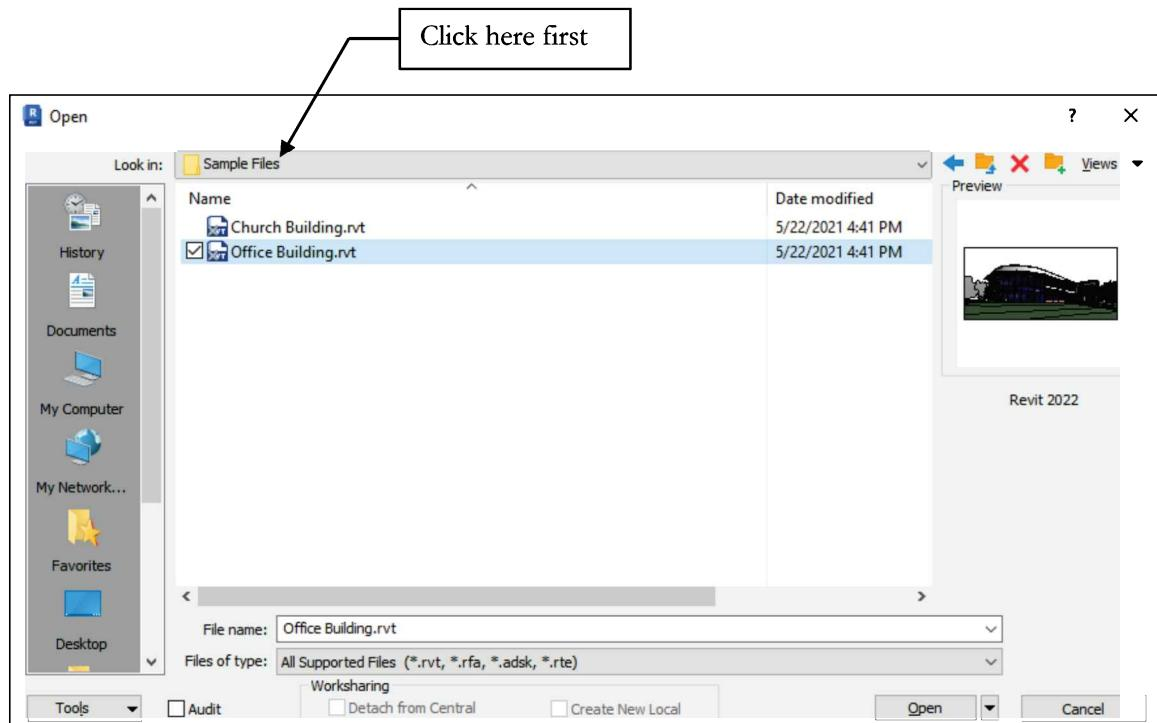

FIGURE 1-3.2 Open dialog; downloaded content from SDCpublications.com
2. Click the drop-down box at the top of the *Open* dialog (Figure 1-3.2). Browse to your downloaded files (provided files need to be downloaded from www.SDCpublications.com; see backside cover of this book for more info).